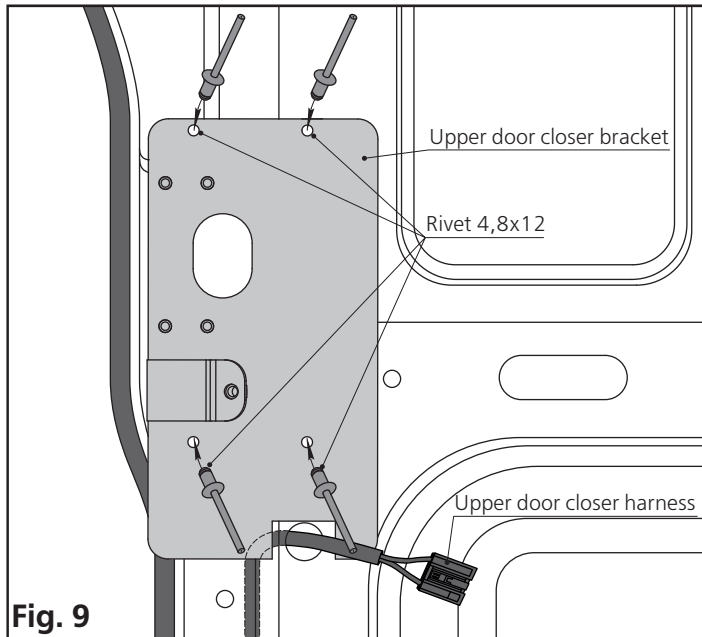

Fig. 9
1. Rivet the door closer bracket to the door opening post with M4.8x12 rivets (Fig. 9).
5. Pull the harness of the door closer of the upper body post through the technical hole $\varnothing 10$ mm (Fig. 9) and make the connection (connection) of the pads (fig. on page 15).